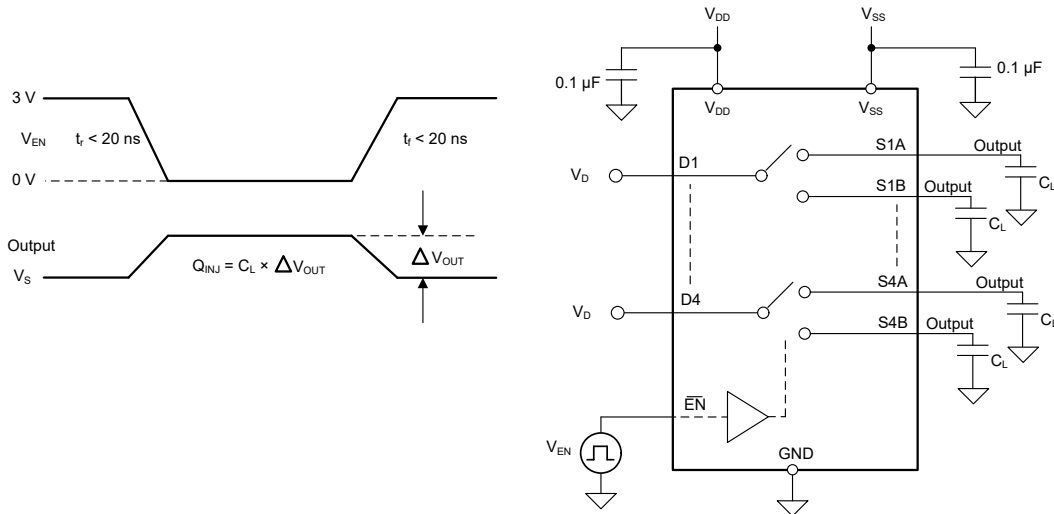

図 6-9. Charge-Injection Measurement Setup
The TMUX7234 has a transmission-gate topology. Any mismatch in capacitance between the NMOS and PMOS transistors results in a charge injected into the drain or source during the falling or rising edge of the gate signal. The amount of charge injected into the source or drain of the device is known as charge injection, and is denoted by the symbol Q_{INJ} . 図 6-9 shows the setup used to measure charge injection from source (S_x) to drain (D).